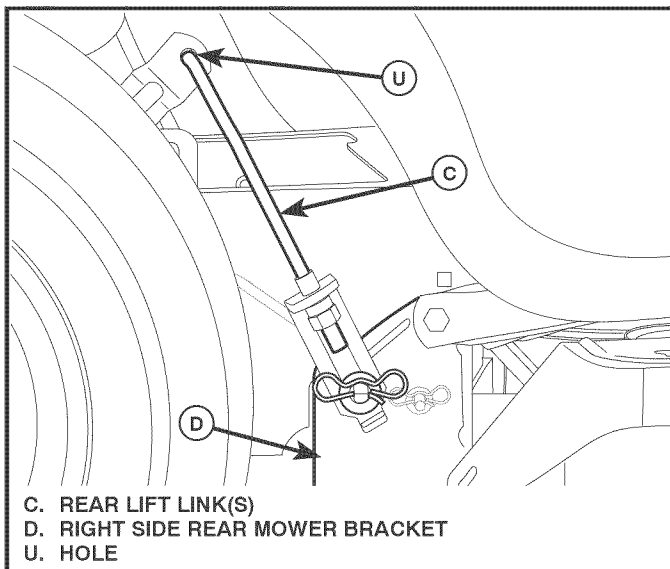

Fig. 31
7. ATTACH REAR LIFT LINKS (C) (See Fig. 31)
- Insert rod end of rear lift link (C) into hole (U) in tractor lift shaft suspension arm and pivot link down to mower.
- Lift rear corner of mower and position slot in link assembly over pin on rear mower bracket (D) and secure with large washer and large retainer spring.
8. ATTACH FRONT LINK (E) (See Fig. 31)
- From front of tractor, insert rod end of front link (E) through front hole in tractor front suspension bracket (F).
- Move to left side of mower and insert large retainer spring (G) through hole in front link (E) behind front suspension bracket (F).
- Insert other end of link (E) into hole in front mower bracket (H) and secure with washer and small retainer spring (J).